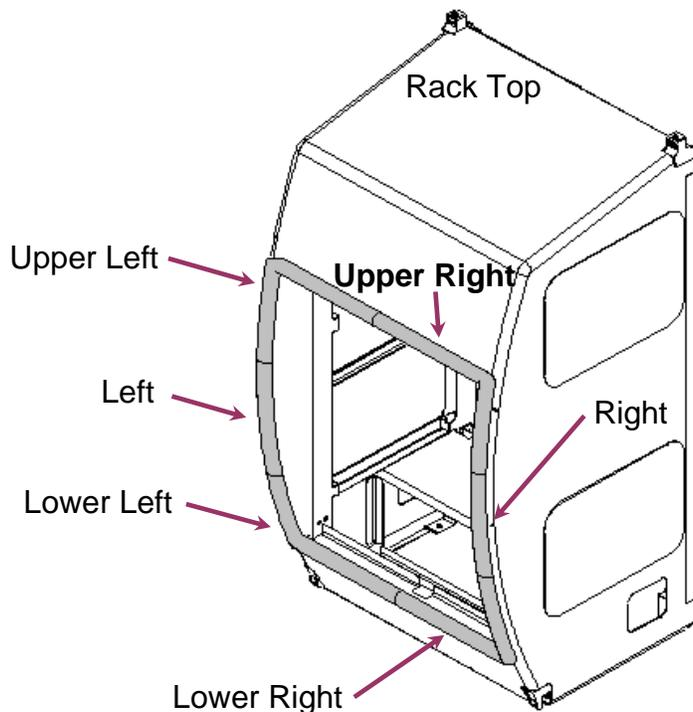

Figure 12.- WOLF Rear Closeout Seal Segments.
- 8.1 Attach Rear Closeout Seal Segments (six) to WORF (Velcro). Refer to Figure 12 for specific installation location of each Seal Segment.